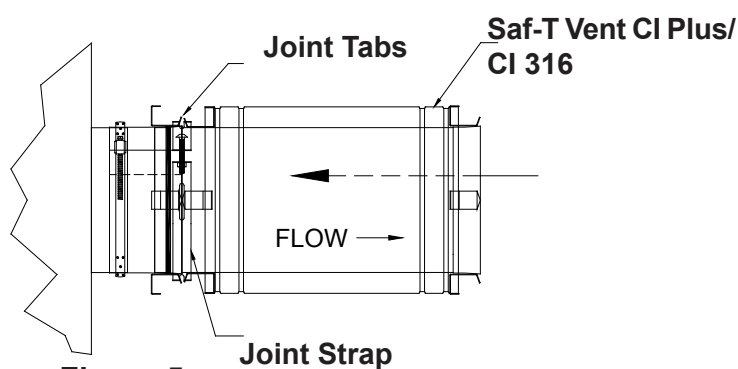

Figure 5
4. Insert the male end of the first piece of Saf-T Vent CI Plus/CI 316 into the female end of the boiler adapter, lining up the joint tabs, *figure 5*. Install the joint strap over the tabs of both parts, hand tighten the strap with a 7/16" hollow nut driver. **CAUTION:** overtightening will distort the joint. Re-tighten the boiler clamp around flue collar. If possible, reach into the vent and apply sealant to all inside seams of the boiler adapter and the first joint. Smooth the sealant with a moistened finger or flat tool, *figure 5*.